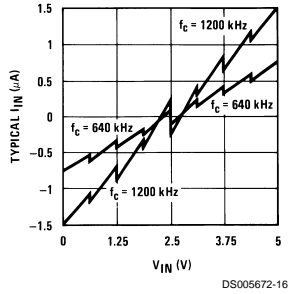

FIGURE 6. Comparator IIN vs VIN (VCC=VREF=5V)
**Note 6:** Comparator input current is a bias current into or out of the chopper stabilized comparator. The bias current varies directly with clock frequency and has little temperature dependence (Figure 6). See paragraph 4.0.
The average value of the comparator input current varies directly with clock frequency and with  $V_{IN}$  as shown in Figure 6.